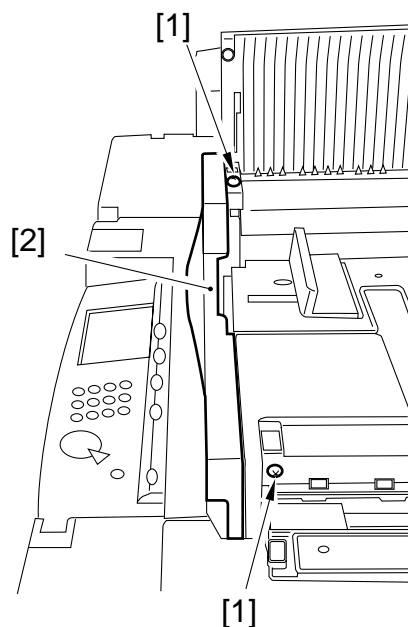

Figure 3-104b
- 1) Remove the front cover. (Figures 3-104b, 3-104c)